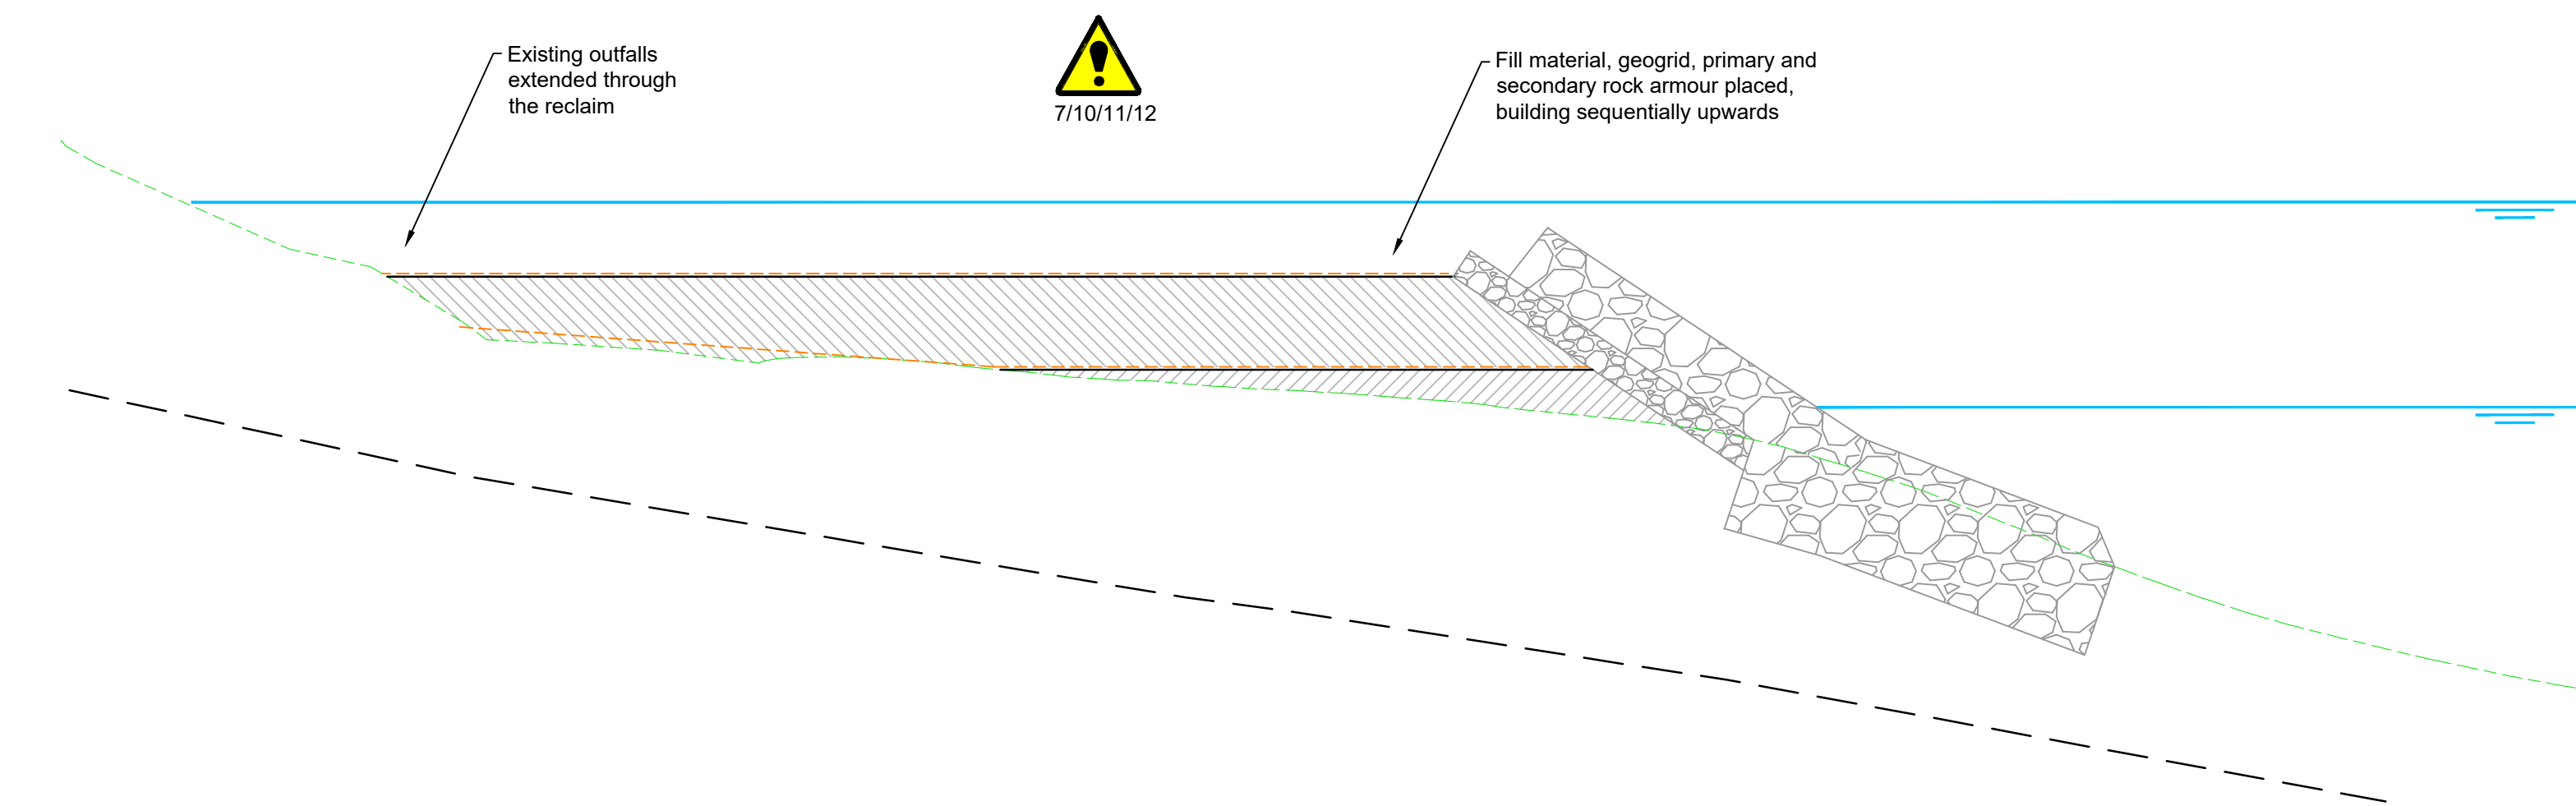

Figure 3
- Sequential placement of fill, secondary armour, primary armour and geogrid to form reclaim - refer Figure 3. Fill material to be faced with secondary and primary armour after placement to minimise washout of fine material.